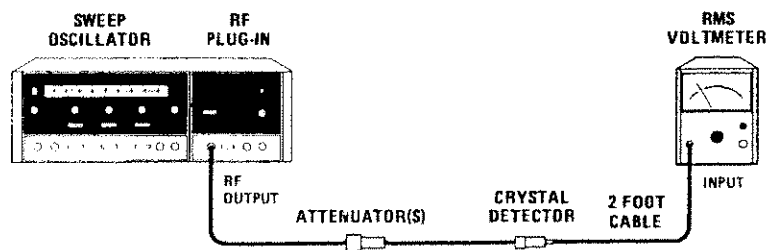

Figure 4-14. Residual AM Test Setup
- d. Connect equipment as shown in Figure 4-14 using 20 dB attenuator. Note reading on RMS voltmeter.